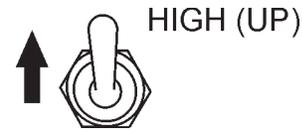

Figure 44. Engine Speed Switch (High)
- If the engine is running smoothly, place the engine speed switch (Figure 44) in the **"HIGH"** (up) position.